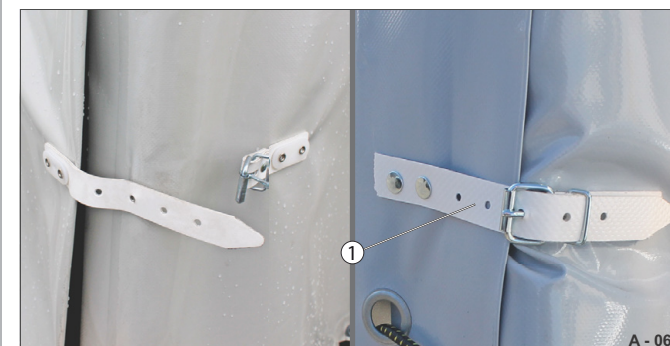

Fig. 72 Secure buckle
- Close the buckles (Fig. 72 /1).